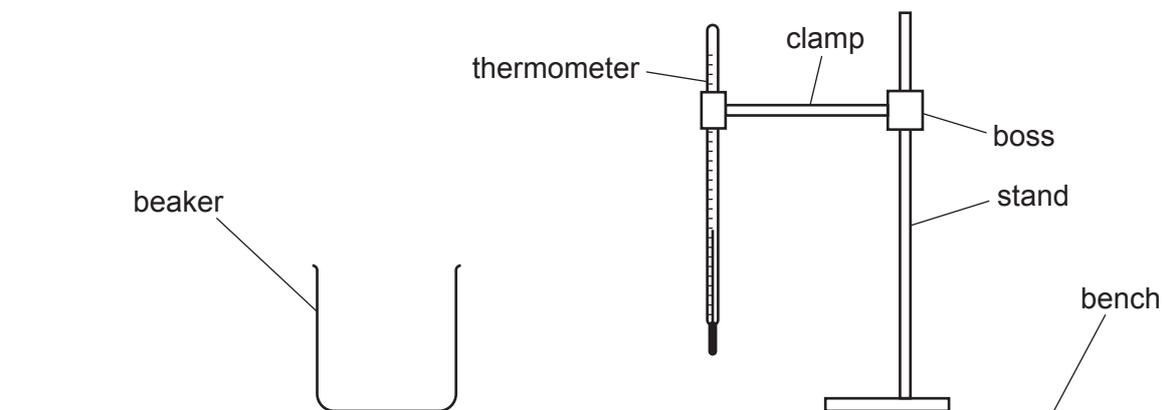

Fig. 2.1
1. The thermometer, clamp, boss and stand are to be set up for candidates as shown in Fig. 2.1. The thermometer bulb must be well below the 100 cm^3 level of the beaker. Candidates must be able easily and safely to read temperatures up to 100°C and to move the thermometer into and out of the beaker.
Check that the apparatus is intact and is arranged as in Fig. 2.1.